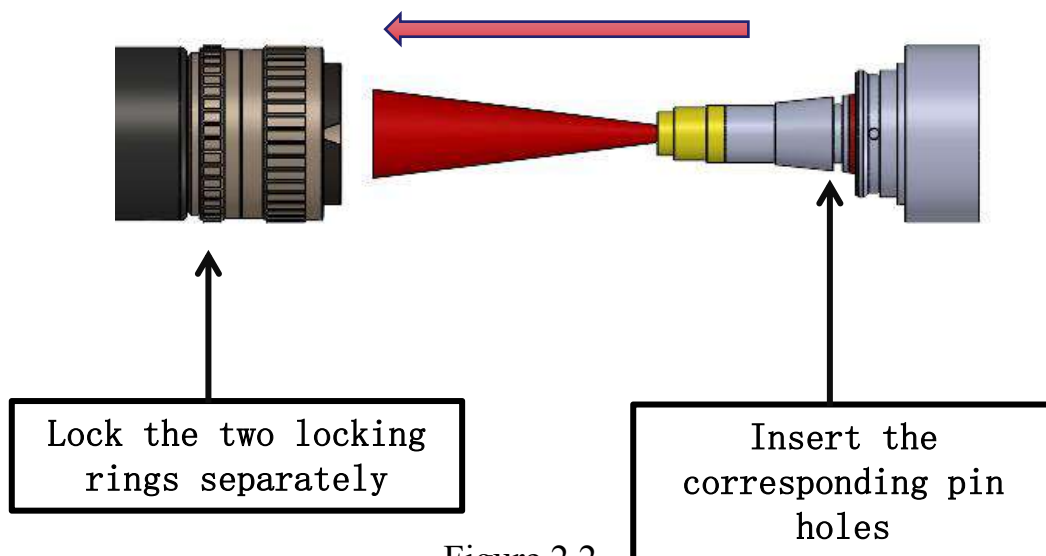

Figure 2.2
- ② Correspond the QD output head of the laser to the pin slot position. As shown in Figure 2.2 below: